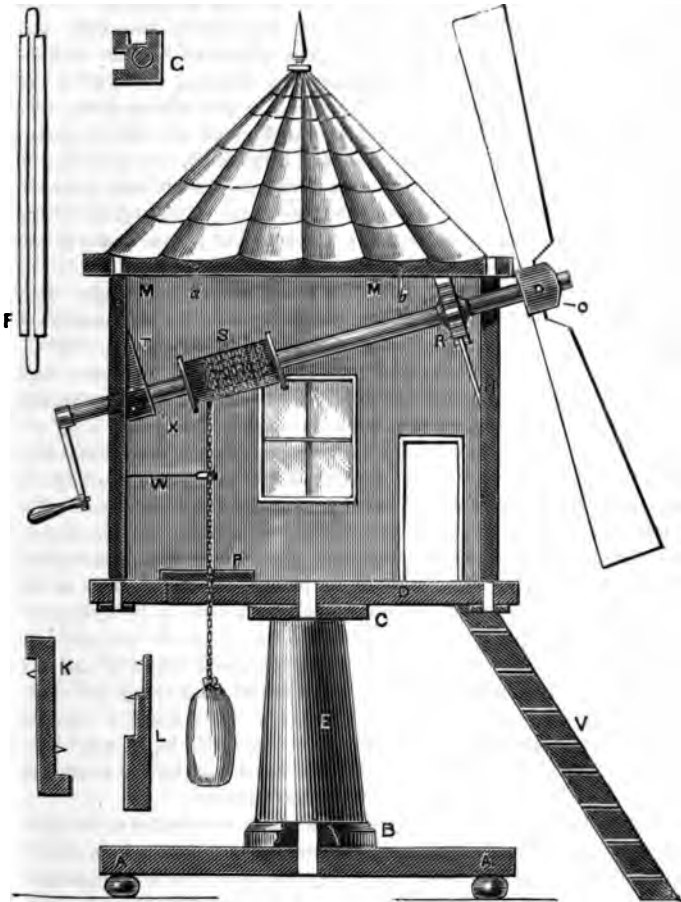

FIG. 33.—SIMPLE MILL WITH CLICK-CLACK ATTACHMENT.
First of all there was the stand, consisting of a square board about 2in. each way, with four knobs at the corners to make it stand more firmly. This will be better if made 3in. square of $\frac{1}{2}$ in. deal, as it has to support the whole structure, and it will be still better weighted underneath by attaching to it a bit of sheet lead. It will not then require to be steadied by the hand while working the sails. In the drawing opposite (Fig. 33), which is partly sectional to show the inside of the mill, this stand is marked A. In the centre of this board is glued a round turned boss (B) to add to its thickness, and thereby give greater steadiness to the pillar which comes next to it. This may be 1 $\frac{1}{2}$ in. in diameter, and $\frac{1}{2}$ in. or more in thickness. In the centre of it a hole must be made about the size of a cedar pencil, which must also penetrate through the square board. It will be best made by a shell bit or nose bit used in the brace—a gimlet may split the wood, and will not make so smooth and round a hole. We now arrive at (E) a turned pillar, 1 $\frac{1}{2}$ in. to 2in. long and about 1in. in diameter, which is to be turned with two tenons or pins, one to fit the hole just described, the other, a similar one, to enter in the bottom board and boss of the mill itself. This pillar should be made of beech or ash, not of deal; but, if the latter is used, it will be as well to bore holes and glue in these pins made of some harder wood. C is a boss similar to B glued to the centre of D, and serving a similar purpose. D may be 3in. square, i.e., the same size as the lower board, and $\frac{3}{4}$ in. thick. Near the corners holes are to be bored, but not so large as the others, say, the size of a penholder. It is as well to put a boss also under each of these corner holes, as they prevent the wood from splitting if put with the grain across that of the board to which they are attached.
There is such a tool called, I think, a string or stringing gauge. It is used to plough out a straight and narrow groove for the insertion of strips of veneer, to form ornamental lines in pieces of furniture. Whenever a gauge is wanted for special jobs it is quite easy to make them without a sliding head. A bit of hard wood is cut like K (Fig. 33), and gauge points inserted at the required distance from the head. They are made thus for marking out sash work and many other such jobs which have to be repeated to the same dimensions. They are also made like L in steps. These cannot be purchased, but are made by the carpenter for special requirements to save the trouble of setting and readjusting the sliding gauges commonly seen, and which I have already described. It is easy to make one of these to plough out the grooves in the upright posts of the mill. The object of the groove is to receive the sliding panels of thin board, forming the four sides of the mill, each of which has a little window, and one the door, with hinges of fine wire or of thin leather glued on. These sides are of stuff barely ½in. thick, merely bits of board very truly squared up. They are slid into the grooves in the posts, and then four little beams like M, M, with holes through them near the ends, slip over the upper pegs of the posts and keep them from spreading, thus securing the structure.